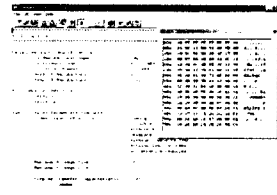

Fig. 13
4. Click (Read EDID function) to read DDC EDID data from monitor. The EDID codes will display on screen as shown in Fig. 13.